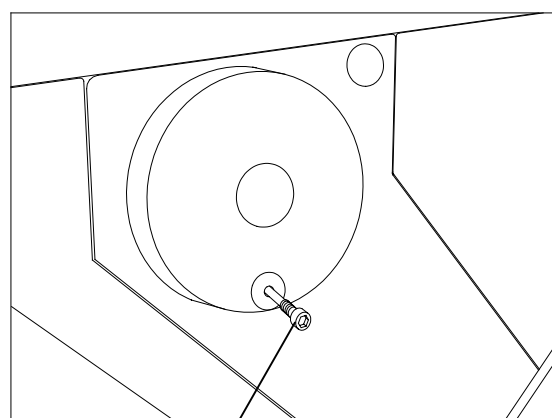

Fig. 6b
Instead of the handwheel handle, a transportation screw (fig. 6b.1) is inserted into the handwheel. This way, the handwheel is tightly and securely connected with the housing of the cryostat. **It is absolutely necessary to remove this transportation screw before the initial turn-on!**
- Loosen the transportation screw (fig. 6b.1) via the Allan key, size 6.